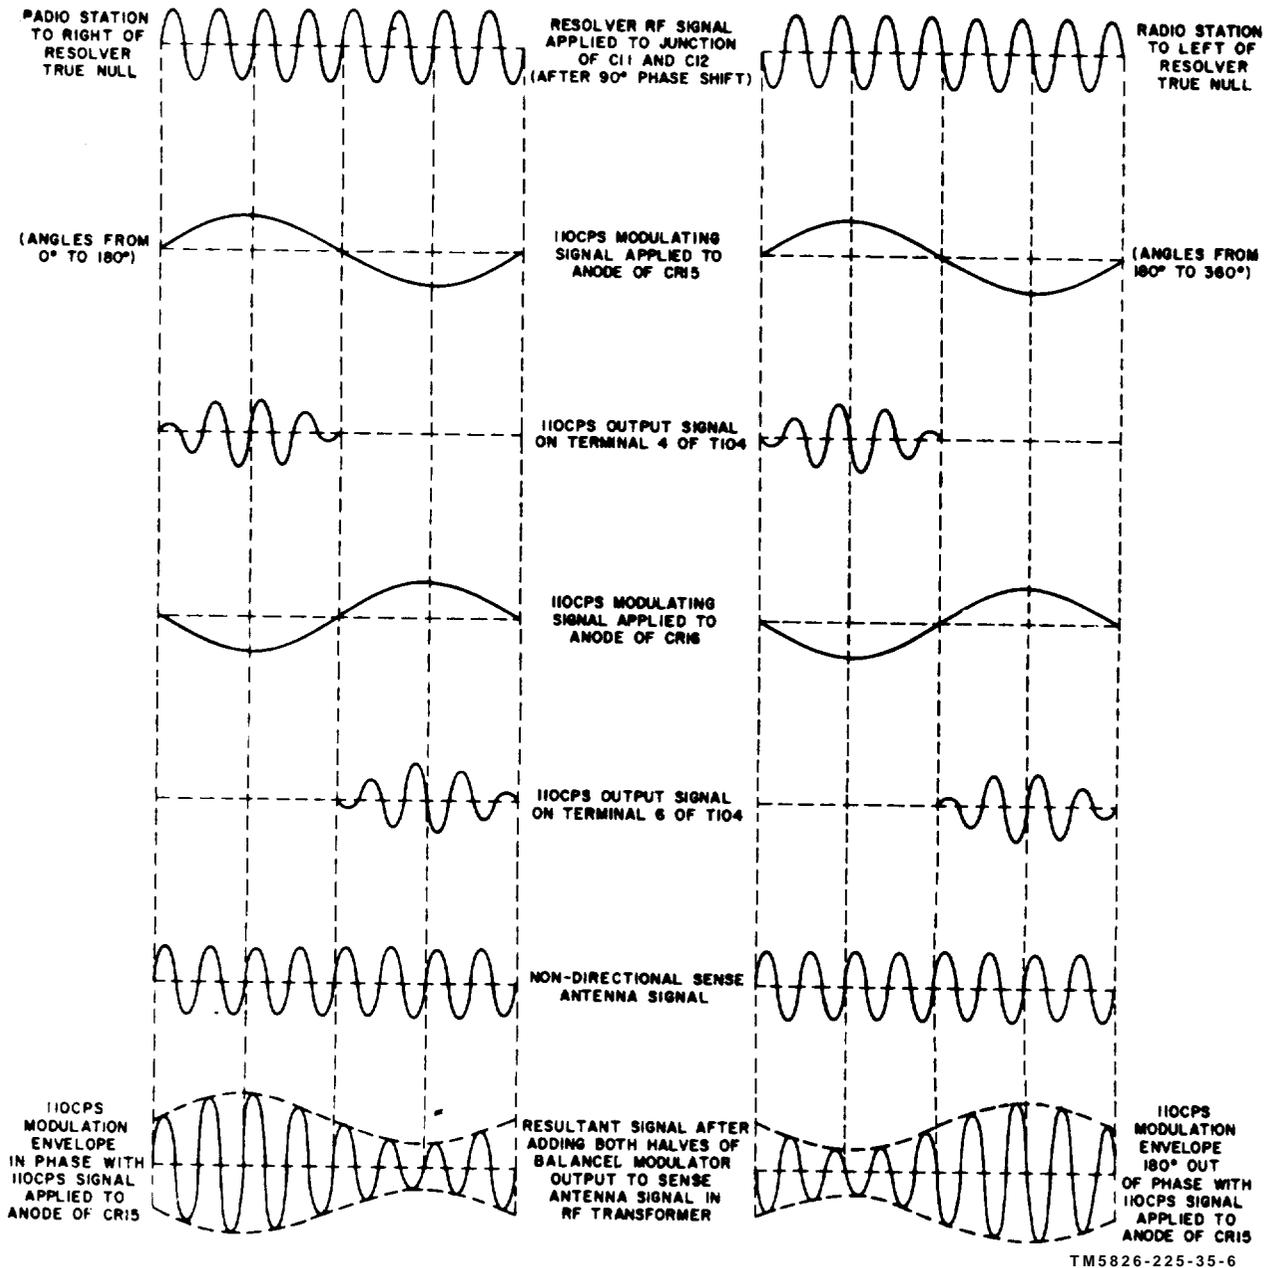

Figure 1-3. Balanced modulator waveforms.
*d.* The waveforms in figure 1-3 shows signal polarities at the input and output of CR15 and CR16 when the radio station RF signals source (from sense antenna) is either to the right or left of the resolver apparent null. The 110 cps on terminal 4 of T104 (extreme left in fig. 1-3) appears for one positive cycle of resolver RF output signal for a radio station RF signal source from  $0^\circ$  to  $180^\circ$  (to right) away from the resolver true null. The 110-cps signal on terminal 4 of T104 shown to the right in figure 1-3, appears  $180^\circ$  later for a radio station RF source from  $180^\circ$  to  $360^\circ$  away from (to the left) of resolver null.
*e.* Combining the variable phase 110-cps sidebands with a nondirectional sense antenna fixed phase signal, yields the lower waveforms shown in figure 1-3. It will be observed that for a radio station RF signal source to the right of resolver null, the resolver and sense antenna RF signals are in phase. For a radio station to the left of resolver null, the resolver and sense antenna signals are  $180^\circ$  out-of-phase. The output of diode CR15 (fig. 5-4) into the secondary of T104 is positive going when the sense antenna signal is positive, and negative when the latter is negative. Hence the sense antenna and 110-cps signals add to yield an outward 110-cps
modulation envelope as shown in figure 1-3. The output of diode CR16 into the secondary of T104 is opposite in phase to the sense antenna signal and subtracts to yield an inward 110-cps modulation envelope. Ultimately, at the output of the servo amplifier furnishing power for driving a two-phase servomotor geared to the resolver, the phase relationship of the 110-cps modulation envelope will determine which direction the resolver will rotate to a null.